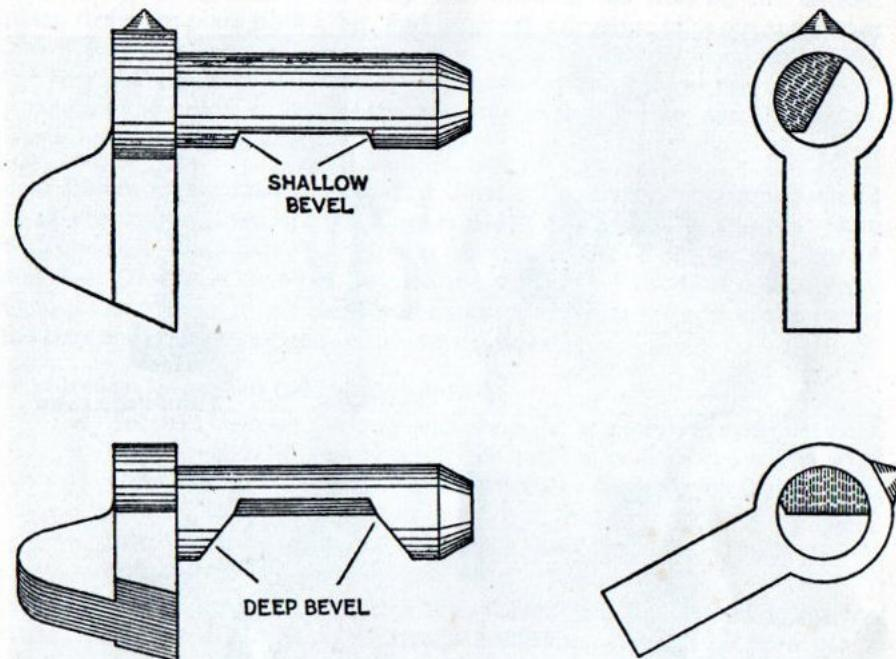

Fig 26.—The change lever
1. General.—The change lever has a deep and a shallow bevel in its stem; as you move the change lever, you alter the position of the tripping lever, and so control the trigger action (see Fig 26).